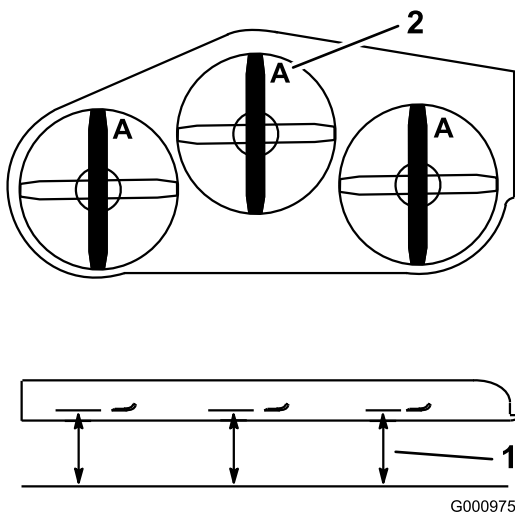

Figure 61
3. With the machine on level surface, position one blade front-to-rear. Measure at A and from level surface to the cutting edge of the blade tips (Figure 61).